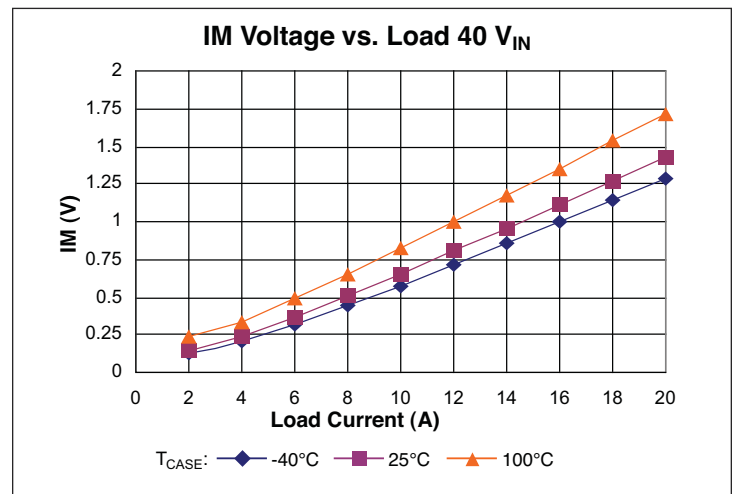

Figure 8 — IM voltage vs. load
Current Monitor (IM) pin provides a voltage proportional to the output current of the VTM module. The nominal voltage will vary between 0.11 V and 1.47 V over the output current range of the module (See Figures 8–10). The accuracy of the IM pin will be within 25% under all line and temperature conditions between 50% and 100% load.